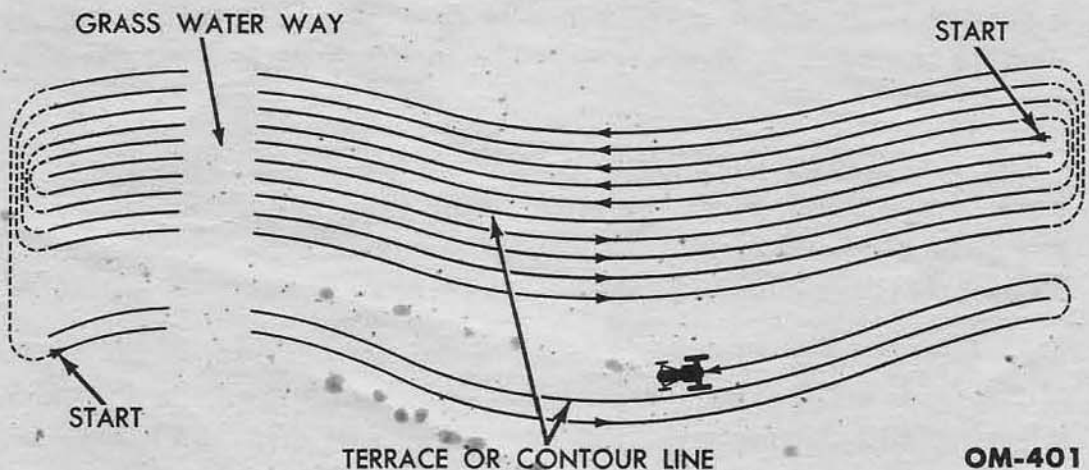

Fig. 79—Contour Plowing
c. Contour Plowing. Many soil conserving farmers prefer to plow on the contour. By contour plowing, it is possible, during seed bed preparation, to turn the soil in such a manner as to build up the terrace crown (fig. 79). The short coupled, maneuverable Ford tractor and Dearborn plow are exceptionally well-suited to contour plowing. The hydraulic control prevents lever tugging when crossing unplowed grass waterways.